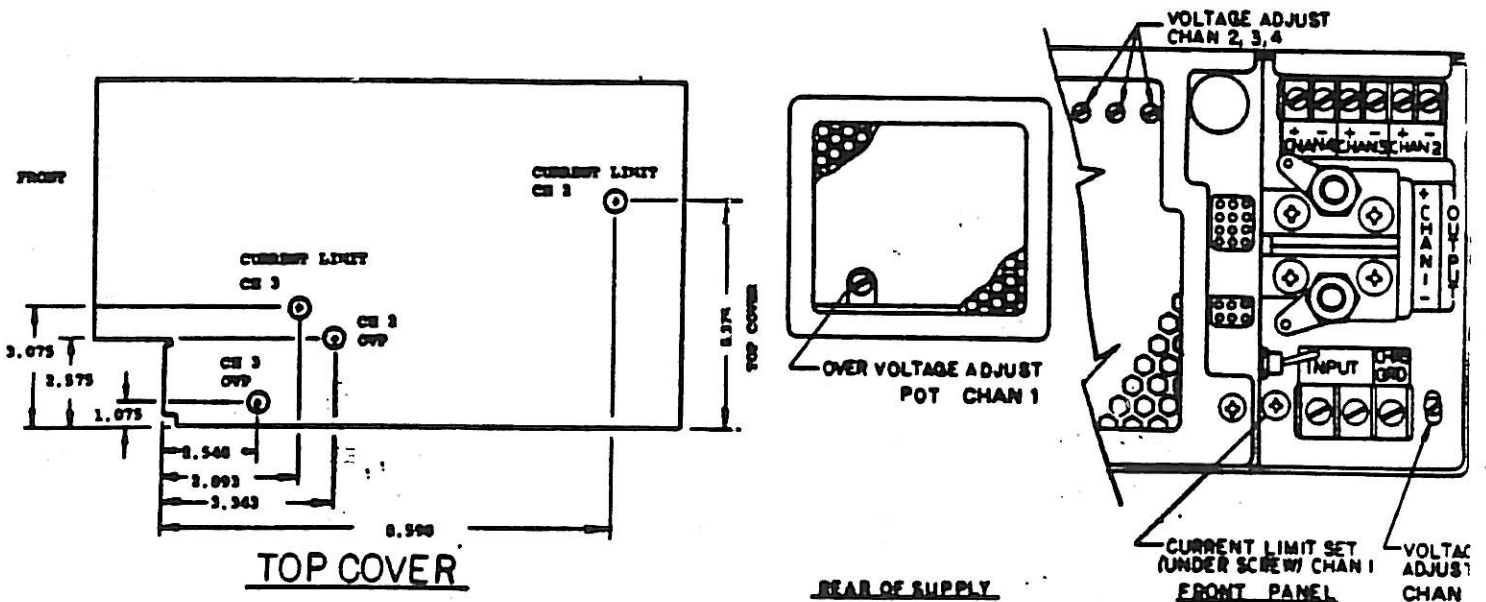

FIGURE 1 - ADJUSTMENT LOCATIONS
Ascertain that a 50 watt or specified minimum load is connected to the primary channel. If only a minor voltage adjustment is necessary, rotate VOLTAGE ADJUST pots (See FIG. 1 FRONT PANEL) to proper level. Do not go through complete adjustment procedure.
3. Turn on power to unit. If voltage appears, set to correct level by turning VOLTAGE ADJUST pot clockwise. If voltage level drops as pot is rotated clockwise, rotate OVER-VOLTAGE pot (See FIG. 1 REAR OF SUPPLY) fully counter-clockwise temporarily. Set VOLTAGE ADJUST pot to specified voltage. Turn off power.
1. Remove screw for access to CURRENT LIMIT adjustment pot. (See FIG. 1 FRONT PANEL)
2. Repeat Channel 1 procedures except current limit and OVP adjust pots are accessed by removing the top cover (See FIG. 1), and their rotation is opposite Channel 1 pots.